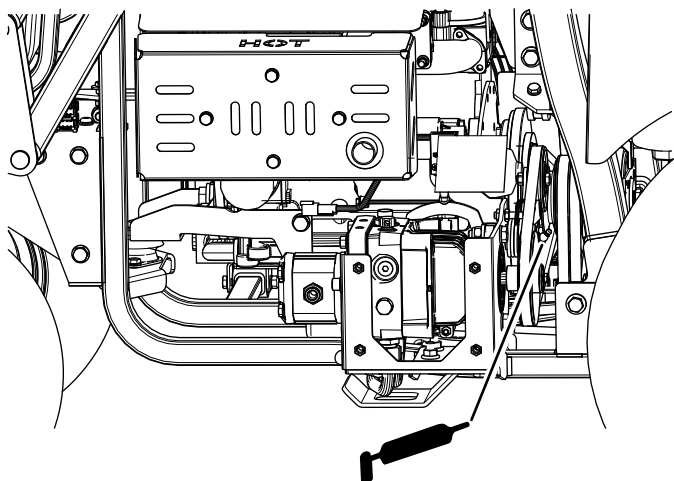

Figure 40
- Remove the cover and grease PTO idler-pulley bracket (Figure 40)